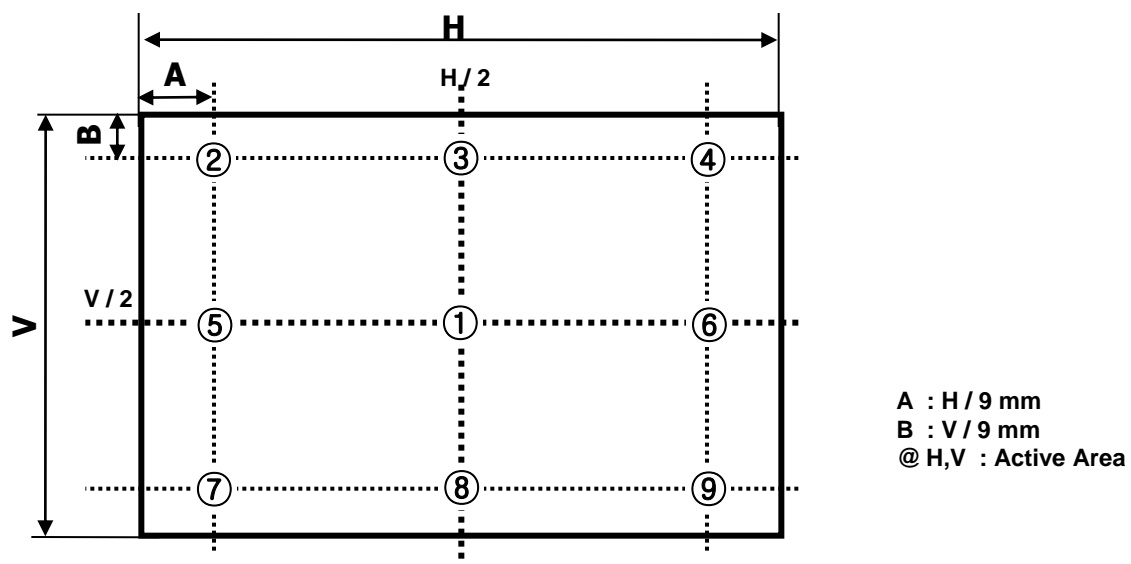

FIG. 2 9Points for Luminance Measure
2. Surface luminance is determined after the unit has been 'ON' and 1 Hour after lighting the backlight in a dark environment at $25 \pm 2^\circ\text{C}$. Surface luminance is the luminance value at center 1-point across the LCD surface 50cm from the surface with all pixels displaying white. For more information see the FIG. 2.
For more information, see the FIG. 2.